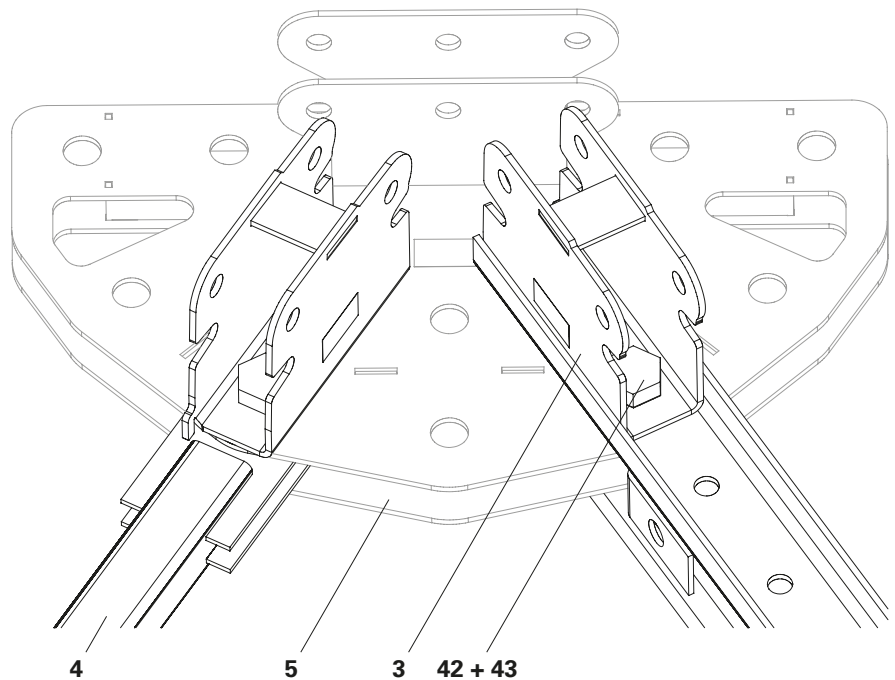

Fig. A2.11
- Secure Bolt ISO 4017 M30 x 100 **(42)** with Hex. Nut ISO 4032 M30 **(43)**. (Fig. A2.11)